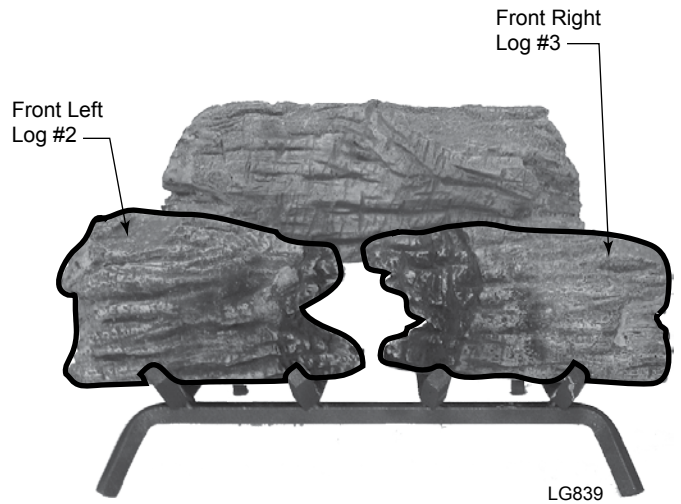

Figure 19 - Place Front Left and Right Logs on Grate
- Place front left log #2 on the front of the grate and to the left. *Figure 19*
- Place front right log #3 on the front of the grate and to the right. *Figure 19*